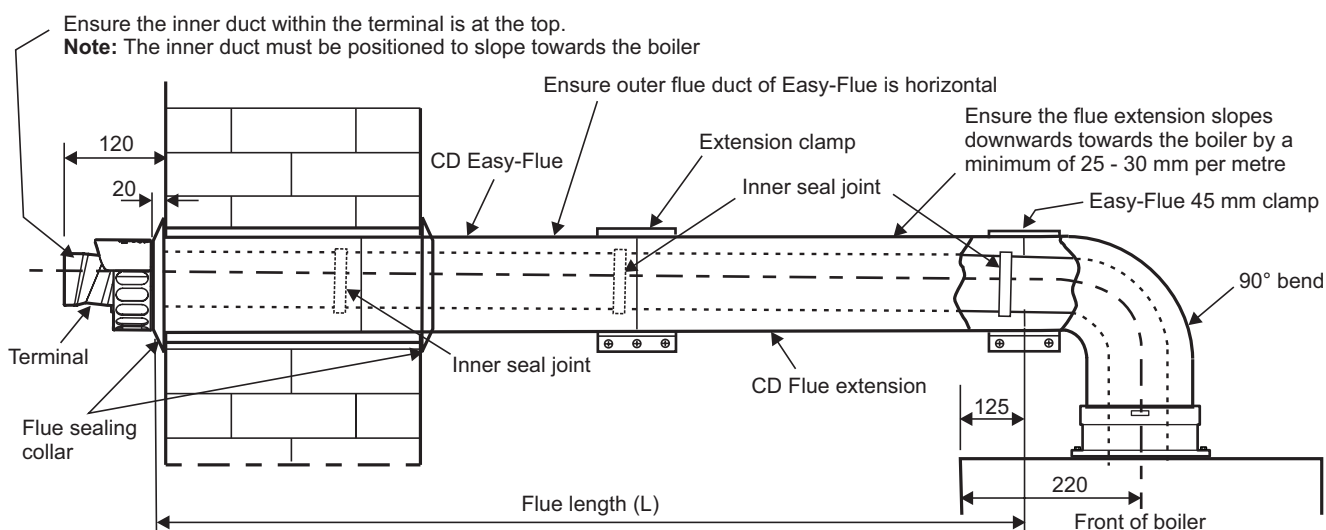

Fig. 5.13b - Clamped side flue
5.9b EXTENDING THE FLUE - Fig. 5.13b
Note: Check the flue terminal protrudes 120 mm out of the wall and that the inner duct of the terminal is positioned correctly, i.e. the inner duct within the terminal is at the top. See Fig. 5.13b.